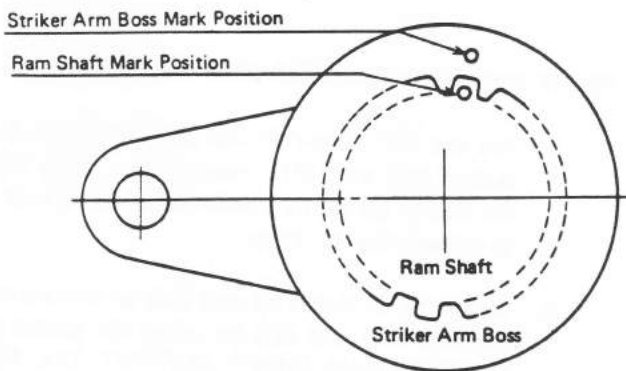

Fig. 17 Position of Striker Arm Boss
8. After installing the right side ram shaft arm, install the striker arm boss so as to fit to the spline. (Refer to Fig. 17) Insert the screw (29) into the washer (27) and spring washer (28), and tighten it. Use the same tightening torque as specified in 7. above.